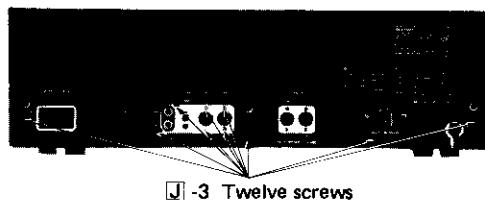

Figure 6-3
3. Remove two screws from the center bracket, four screws from the terminal board, two screws from the phono input socket, four screws from the phono/aux. DIN socket, and two screws from the AM bar antenna holder. See Fig. 6-3.